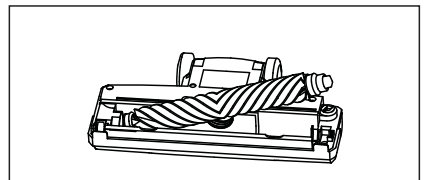

Fig. 5
- Remove brushroll from floor nozzle to clean or replace (Fig. 5).